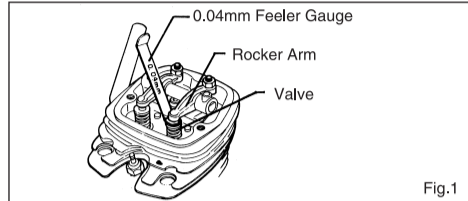

Fig.1
3. The standard valve clearance, on both inlet and exhaust valves, is between 0.04mm and 0.1mm(0.0015-0.004 inch), for FS-26S-C/CX, and 0.1mm and 0.14mm for FS-40S-C/CX. Measured between valve stem and rocker arm. Use the 0.04mm and 0.1mm feeler gauges to check clearances. (See Fig.1.)